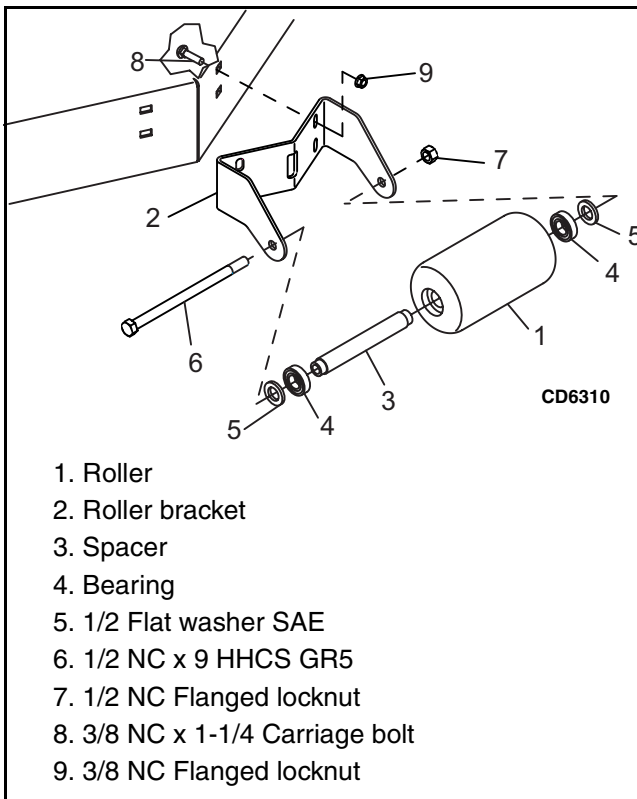

Figure 29. Front Roller Installation
1. Insert four carriage bolts (8) through the front mower frame from inside out.
2. Place roller bracket (2) over bolts; then install flange lock nuts (9) on bolts and tighten.
3. Place front roller (1), sleeve (3), bearings (4), and washers (5) in roller bracket as shown in Figure 29.
4. Insert cap screw (3) through bracket and roller.
5. Secure with flanged lock nut (2). Do not overtighten, roller must spin freely.